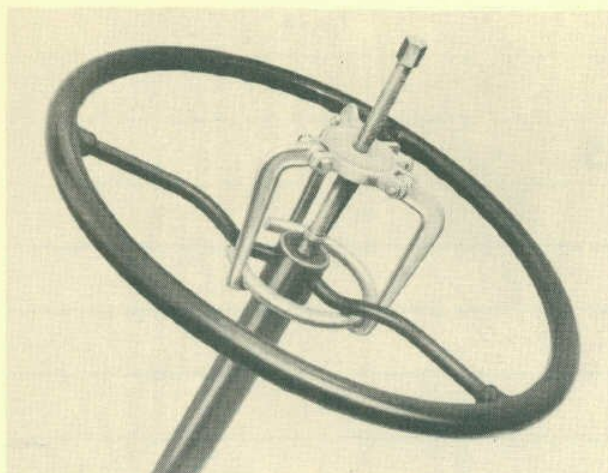

Fig. 9
- Step 4—Pull the steering wheel as shown in Figure 9.